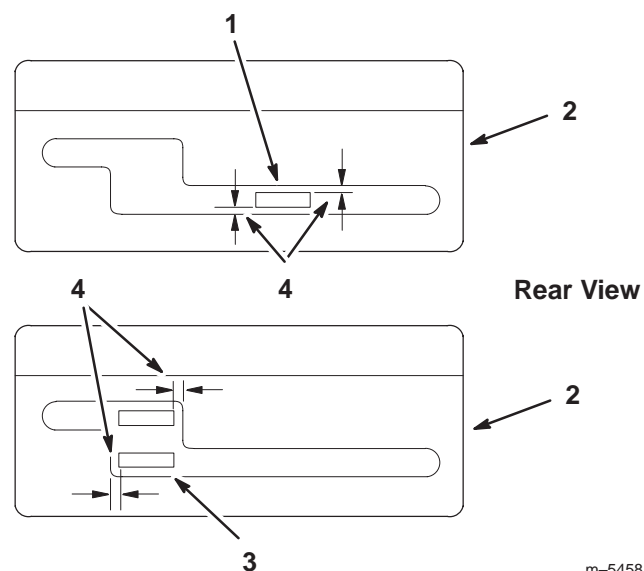

Figure 5
- Shift lever to second gear and check alignment of lever in shifter plate slot. The clearance between top and bottom of the shift lever should be equal (Fig. 5).
- Shift lever to neutral and check alignment of lever in slot of shifter plate. The clearance on the sides of shift lever should be equal (Fig. 5).